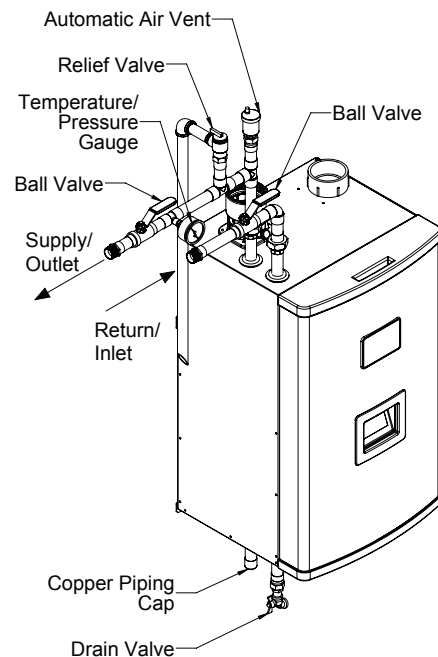

Figure 9.1: Near Boiler Piping
- 1) Relief Valve (Required) – The relief valve is shipped loose and must be installed in the location shown in Figure 9.1. ASME Section IV currently requires that this relief valve be installed above the heat exchanger as shown. Pipe the outlet of the relief valve to a location where water or steam will not create a hazard or cause property damage if the valve opens. The end of the discharge pipe must terminate in unthreaded pipe. If the relief valve discharge is not piped to a drain, it must terminate at least 6" above the floor. Do not run the discharge piping through an area that is prone to freezing. The termination of the relief valve must be in an area where it is not likely to become plugged by debris.
- 2) Gauge (Required) - Indicates supply water pressure and temperature. This gauge is shipped loose. Install it as shown in Figure 9.1.
- 10) Drain Valve (required) – Install the drain valve supplied as shown in Figure 9.1.